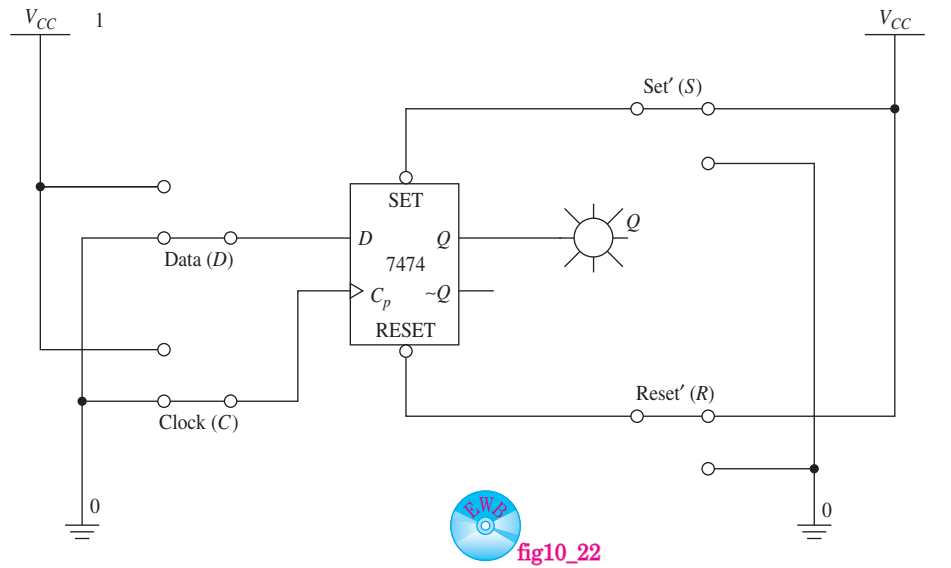

Figure 10–22 Using MultiSIM® to simulate a 7474 D flip-flop.
- Load the file *fig10_22* from the textbook companion website. Run the simulation and press the C key to apply a positive edge clock. Because D was LOW before the clock edge, the Q output LED is OFF.